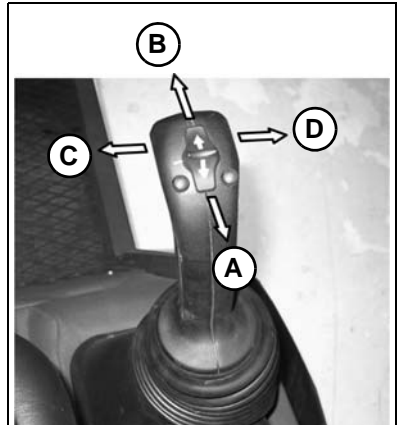
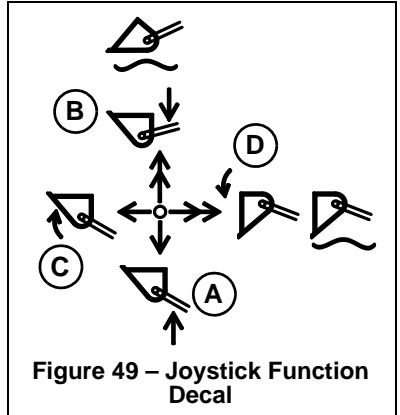

Figure 48 – Multi-purpose Joystick
Figure 49 – Joystick Function Decal
- A. Move the joystick rearward (A, Fig. 48, Fig. 49) to raise the lift arm.
- B. Move the joystick forward (B) to lower the lift arm.